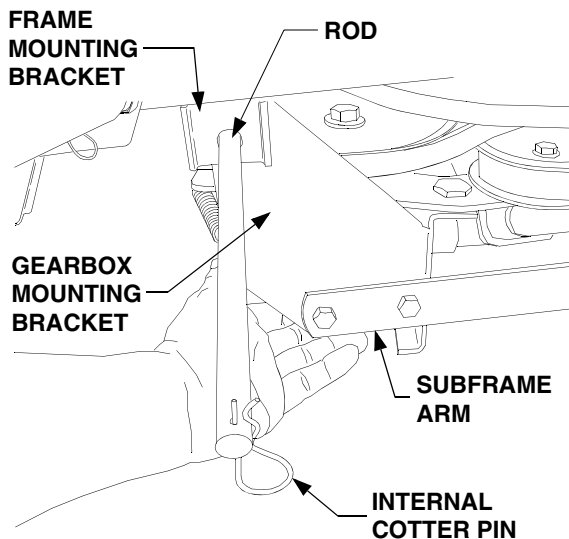

Figure 22
11. Install an internal cotter pin (2, Fig.2) into one end of the rod (3, Fig.2). Refer to Figure 22.
12. Lift the gearbox mounting bracket/subframe assembly up between the frame mounting brackets (1, Fig.2) installed earlier on the tractor. Align the holes and slide the rod (3) through the frame mounting brackets and the gear box mounting bracket. Install the other internal cotter pin (2, Fig.2) into the other end of the rod. See Figure 22.
4. Remove the internal cotter pin from one end of the rod (3). Support the gearbox mounting bracket and withdraw the rod from the frame mounting brackets (Refer to Figure 22). Lower the subframe to the ground.